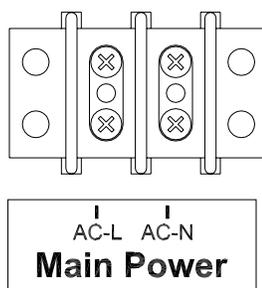

Figure 9 Power to Scoreboard Connections
3. Connect the AC line wire and AC neutral wire to the **Main Power** terminal block on the junction chassis according to Figure 9.